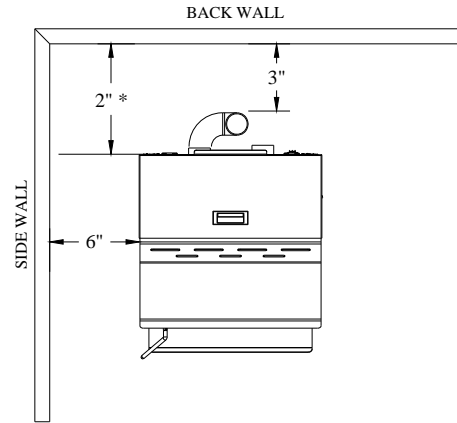

Figure 1
The FP-45 has been tested and listed for installation in regular and mobile homes.(refer figure 1 & 2)
1. Position stove, adhering to clearances shown in Figures 1 & 2.
5. Position the stove, adhering to the clearances in Figures 1 & 2.
1. Position the stove, adhering to the clearances in Figures 1 & 2. Mark the center of the hole where the pipe is to pierce the masonry chimney.